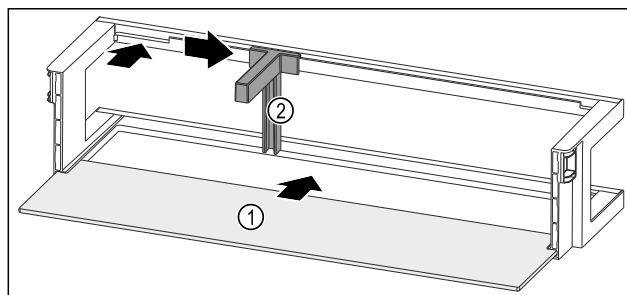

Fig. 136 Door rack with shelf
- Push the shelf Fig. 136 (1) into the side recesses.
- Insert the bottle holder Fig. 136 (2) in the recess.
- Push the bottle holder Fig. 136 (2) to the desired position to the side.